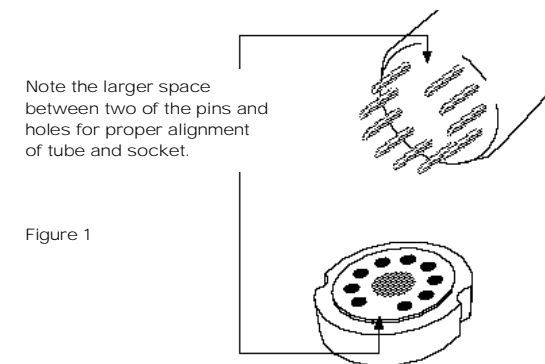
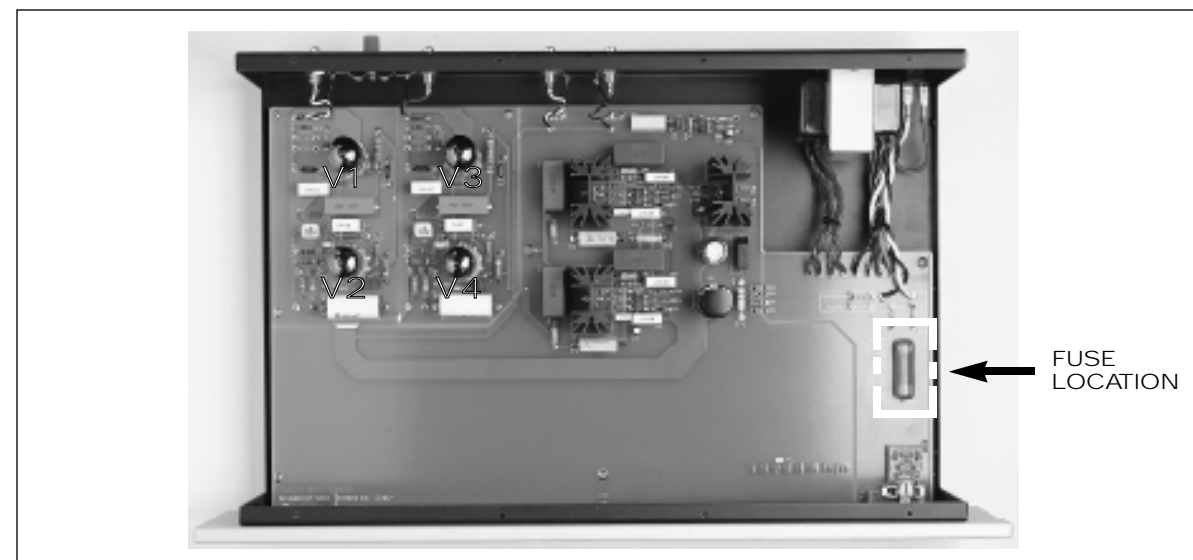

Figure 1
Figure 2 - Tube and Fuse Location
3. Noting the location of the tube sockets in the top view photo (Figure 2) or directly on the Printed Circuit Board, inspect the tubes for corresponding labels and markings. Once locations are mapped, take a tube and inspect the pins, noting the larger space between two of the pins (see Figure 1). This space will match with the socket. Insert each tube into the appropriate tube socket, making sure all pins and pin holes are aligned. Do not force the tubes into the sockets. "Rock" the tubes gently while pushing slowly until each tube is firmly seated.